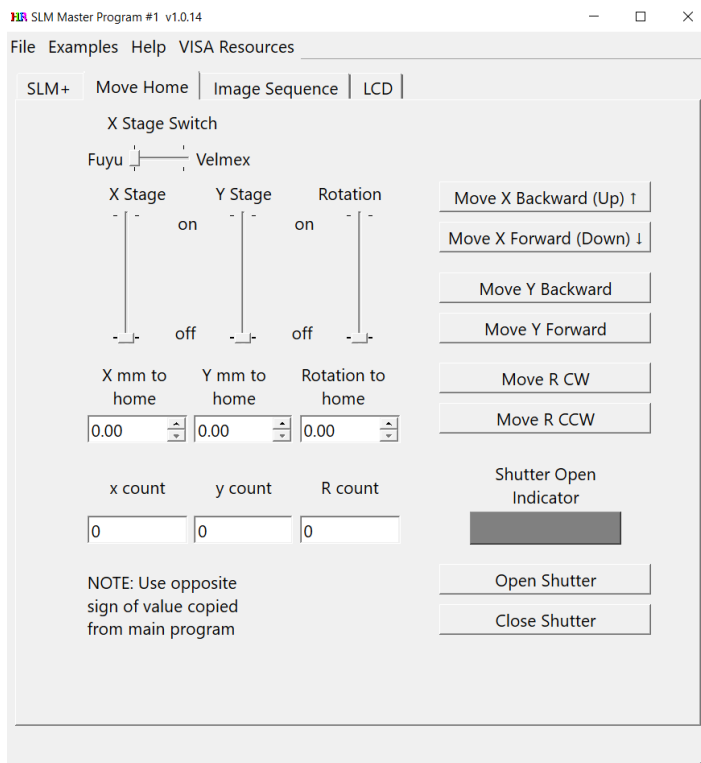

Figure 4 Move Home tab, useful for setting up & testing
**Move Home tab Entry windows, sliders and option/radio buttons for from left to right, top to bottom:** See Figure 4.